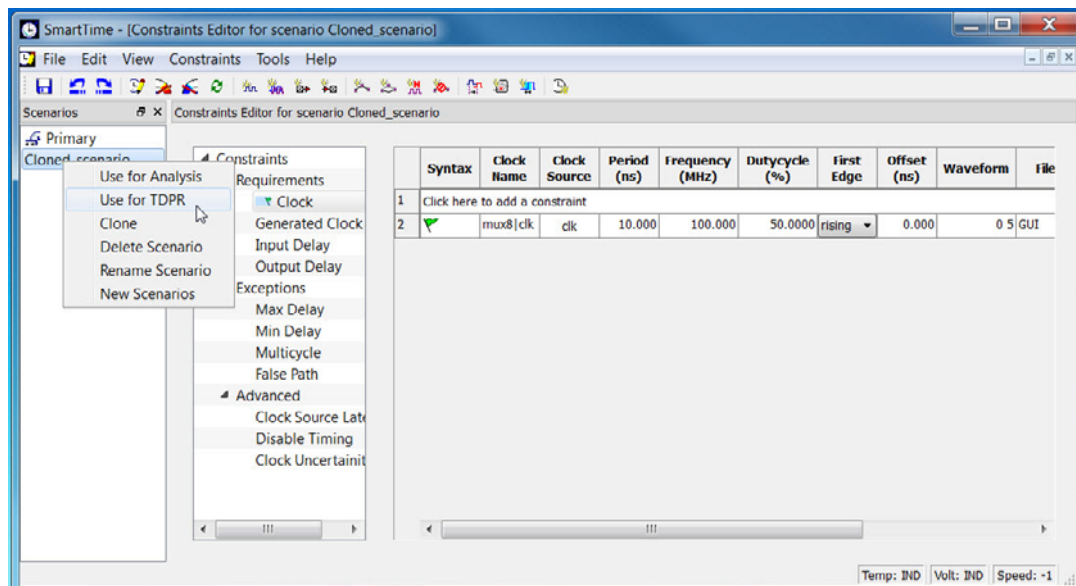

Figure 2-12 • Cloned Scenario for TDPR
- Use the second set of constraints (cloned scenario) exclusively for TDPR. Right-click Cloned scenario and choose **Use for TDPR** (Figure 2-12).